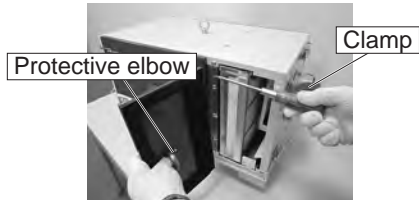

Fig.2
- ① Release the clamp, remove the bolts at the side-cover side of the hinge which connects the filter cover and side-cover, then remove the filter cover (both left and right). (See Fig. 2 and 3)